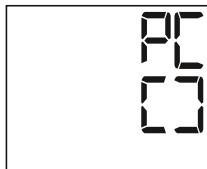

Fig. 1
- Start the data transfer using the 'medi.connect' software. An animation is shown on the display during data transfer. A successful data transmission is shown on the display of the blood pressure monitor as in Fig. 1.